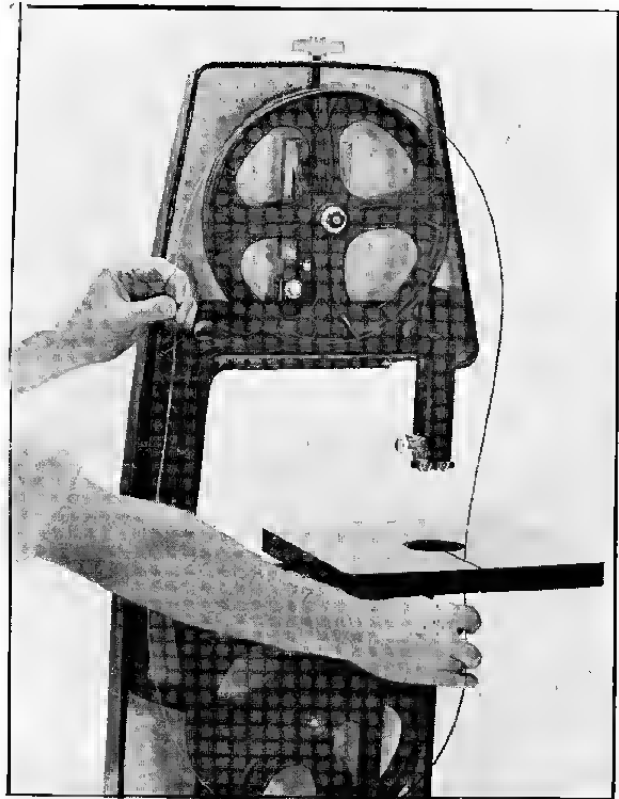

Fig. 23
4. Release blade tension and remove blade as shown in Fig. 23.